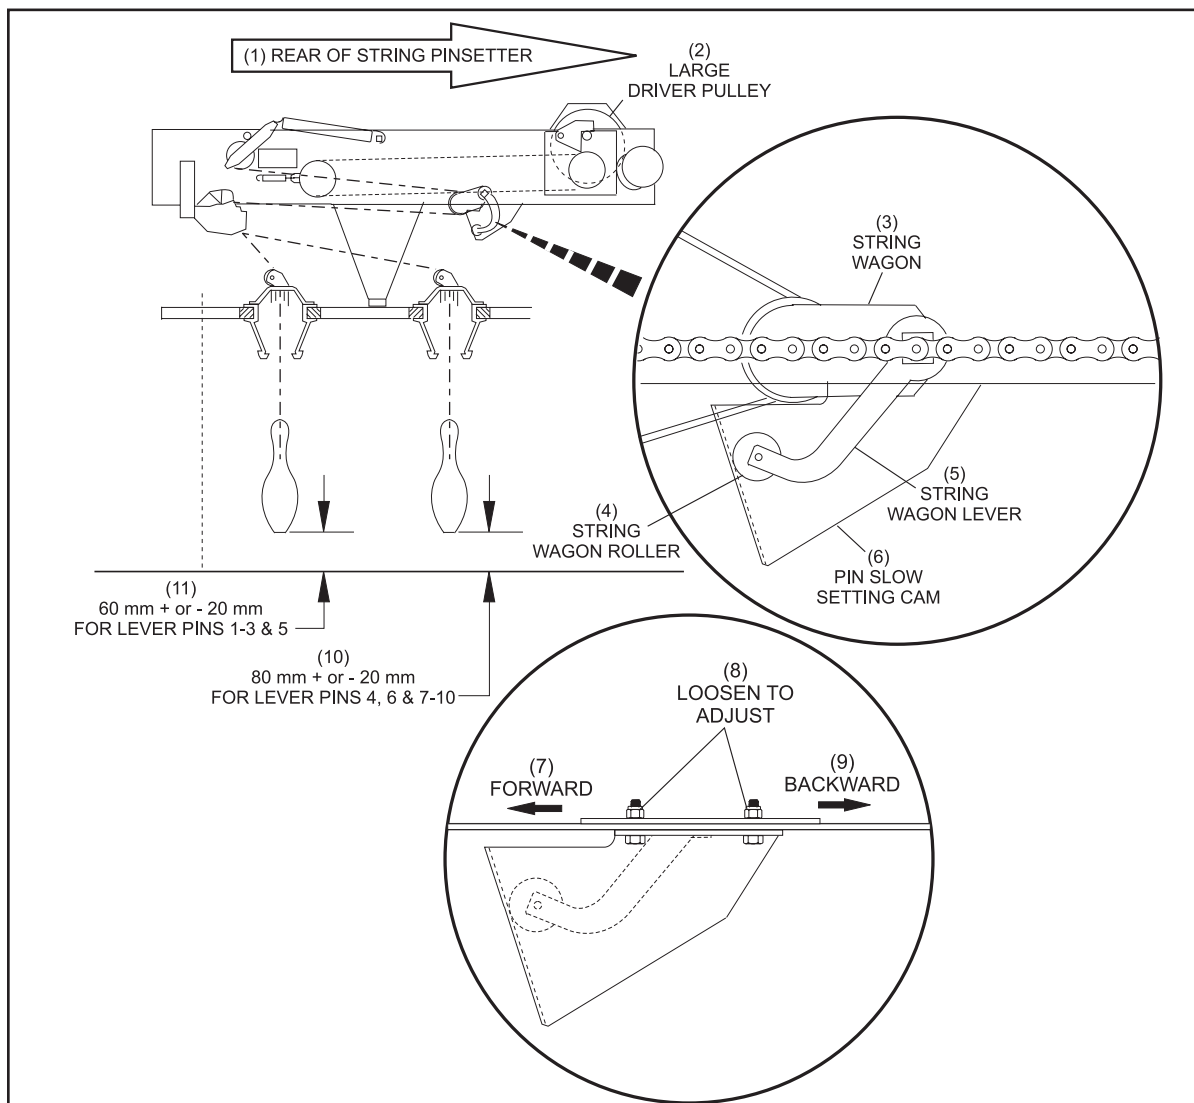

Figure 4-10. Slow Setting Adjustment
3. Manually rotate the large drive pulley in reverse until the string wagon lever roller starts to touch the inside of the pin slow setting bracket. Refer to Figure 4-10.